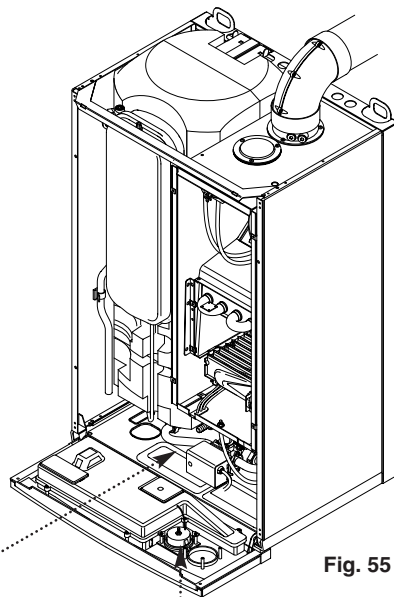

Fig. 55
11.5 Pressure Gauge (Figs. 55, 56 & 57)